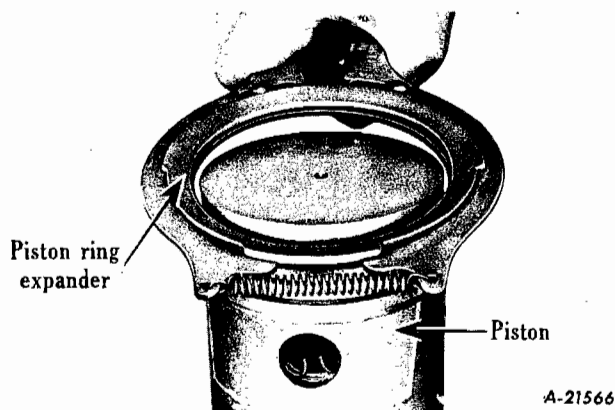

Fig. 59 - Installing piston ring using SE-1149-8 piston ring installing tool.
3. When installing piston rings in piston grooves, be careful not to distort rings. If possible use a suitable piston-ring expander tool (Fig. 59). Also check new piston rings in piston ring grooves for clearance between ring and ring lands. The correct ring clearance is shown in specifications.